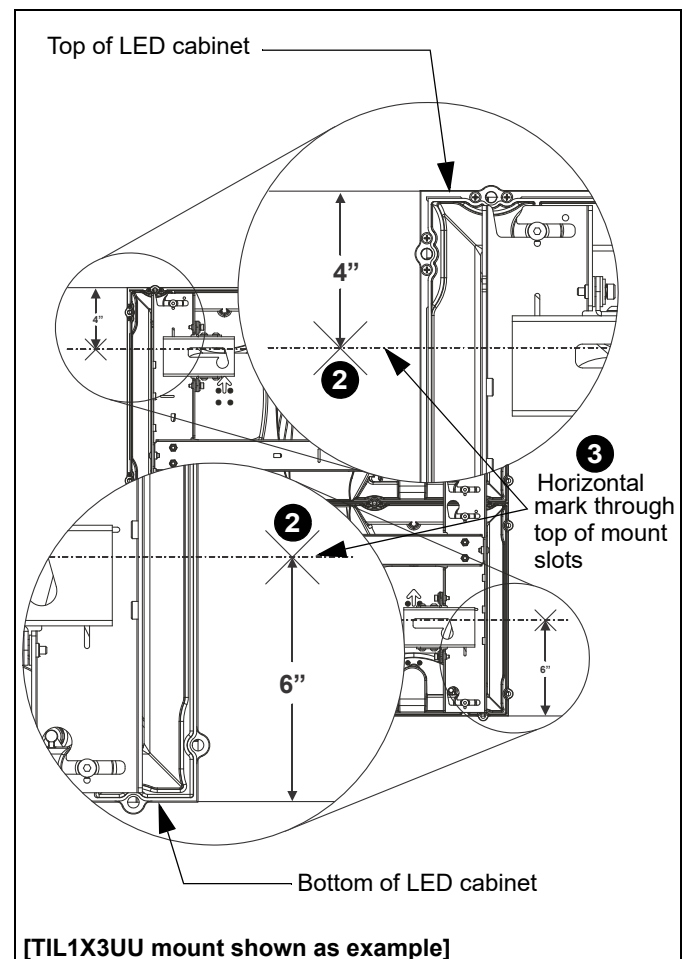

Figure 5
2. Make a mark 4" **below** the planned top edge (or 6" **above** the planned lower edge) of the LED wall. (See Figure 5)
**NOTE:** This line will be located at the top of the mounting slots across the width of the LED video wall. The oversize mounting slots will allow some upward adjustment as needed. (See Figure 5)